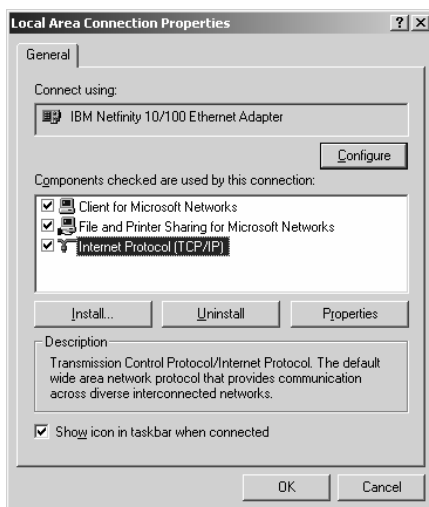

Figure 4: Local Area Connection Properties Window
5. Select the Internet Protocol (TCP/IP) and click the **Properties** Button (see *Figure 4*).